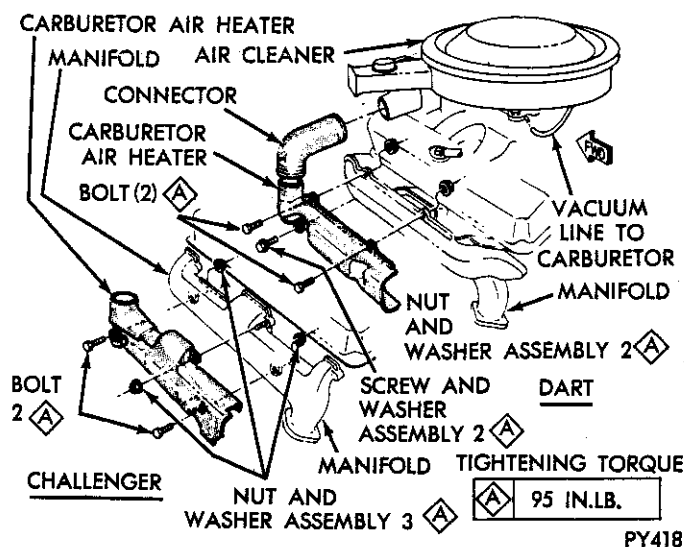

Fig. 7—Carburetor Air Heater 318 Cubic Inch Engine
- (1) Disconnect air cleaner vacuum line from carburetor and flexible connector between air cleaner and carburetor air heater.
- (2) Disconnect breather cap to air cleaner line and remove air cleaner.
- (3) Refer to Figure 7, to remove carburetor air heater and attaching screws.
- (4) Inspect air heater; replace if damaged.
- (1) Refer to Figure 7, install carburetor air heater with attaching screws, bolts, nut and washer assemblies. Tighten to 95 inch-pounds.
- (2) Install air cleaner and connect air cleaner to breather cap line.
- (3) Install air cleaner to carburetor vacuum line, flexible connector between air cleaner and carburetor air heater.